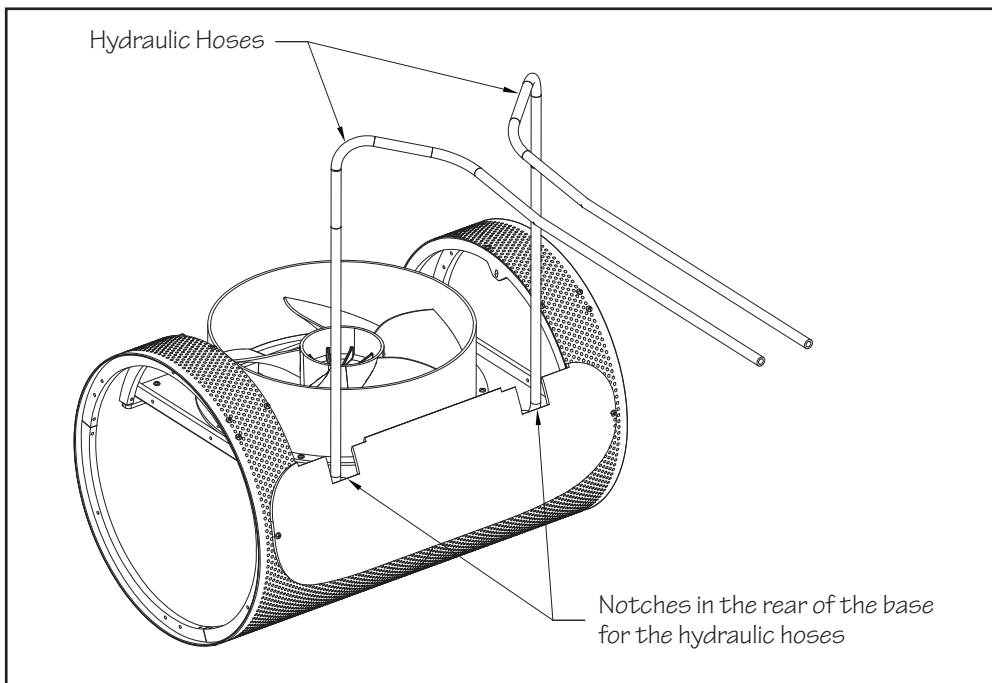

Fig. 6.2
- 6.3 Uncoil the two lengths of hydraulic hose that are attached to the cylindrical base. Make sure that the hoses are seated into their respective notches in the backside of the base (Fig 6.2).